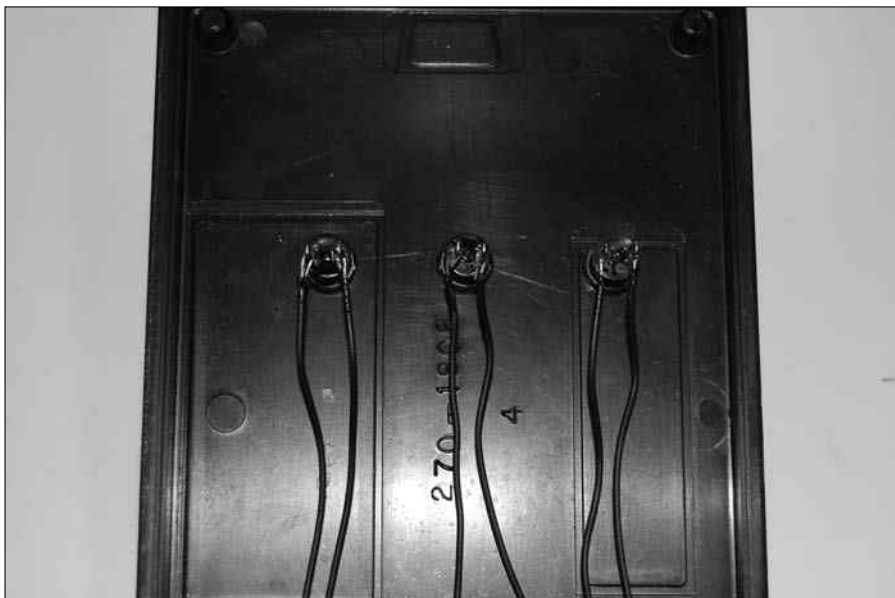

Figure 11-18:
12. Connect 6" wires (any color is okay) to the switches and solder them, as shown in Figure 11-18.